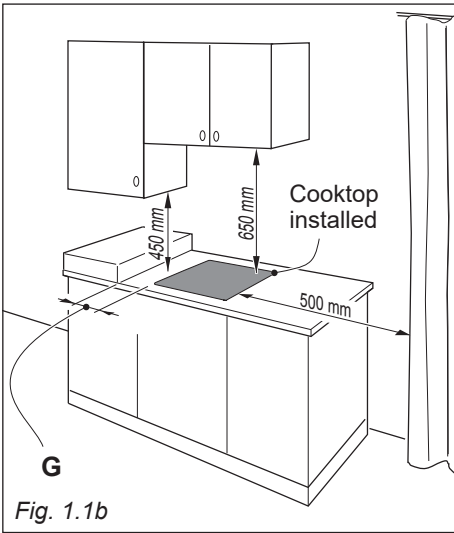

Fig. 1.1b
- There must be a distance of at least 650 mm between the hob and any wall cupboard or extractor hood positioned immediately above (see fig. 1.1b).